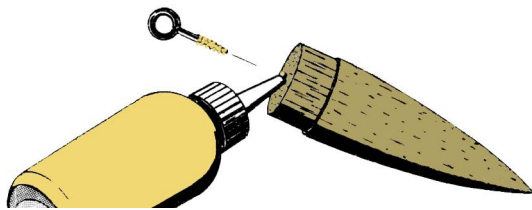

Figure 5
- **Step 10** Use the threads of the screw eye to cut a matching hole into the base of the nose cone, then carefully reverse the screw eye out. As shown in Fig. 5, force glue down into the hole, and coat the threads of the screw eye. Re-insert the screw eye into the hole. Do not wipe away the excess glue. Set aside to dry.